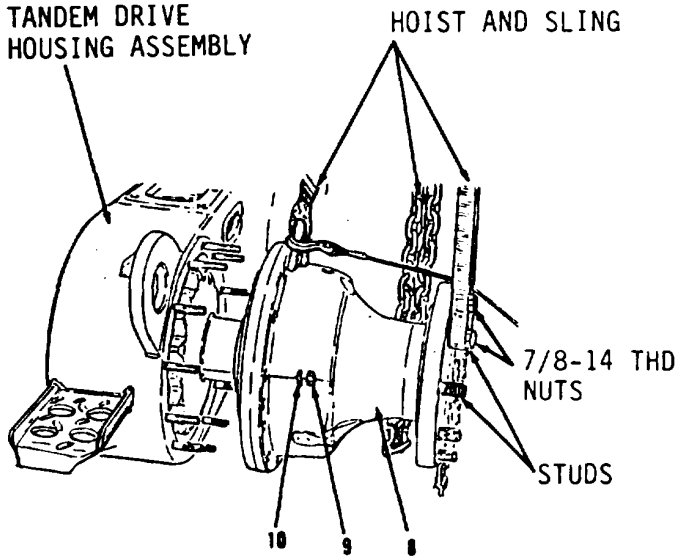
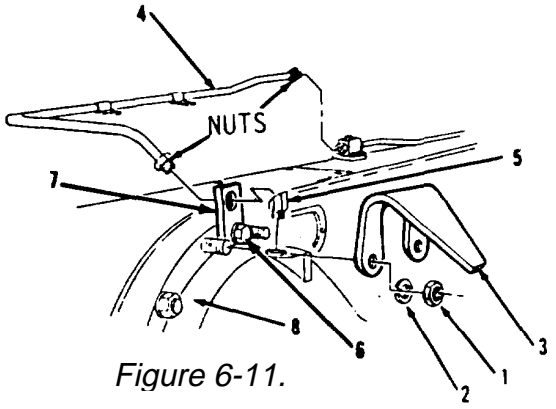

Figure 6-13.
Figure 6-11.
1. Install hoist and sling on brake and wheel spindle housing assembly (8, Figure 6-13).
3. Install brake and wheel spindle housing assembly (8) to tandem drive housing assembly.
4. Install ten lockwashers (10) and nuts (9).
7. Install plate (7), bolt (6), elbow (5) and tube assembly (4) on brake and wheel spindle housing assembly (8, Figure 6-11).
8. Tighten two nuts on tube assembly (4).
9. Install guard (3), two lockwashers (2) and nuts (1).